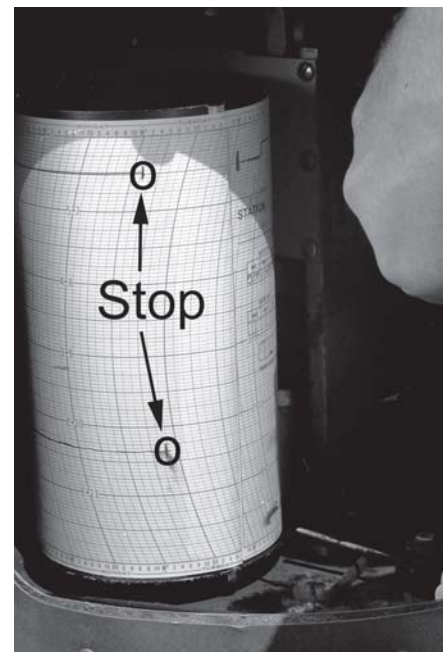

Figure 3-8. Mark the pen position.
1. Open the raingage access door and move both pens up and down to mark their stop positions on the chart (Figure 3-8). The top pen is the event recorder pen, which records the openings of the collector. The bottom pen records the amount of precipitation. Note: The event recorder pen should be in the *down* position if the collector is covering the wet-side bucket and *up* if closed over the dry-side bucket. If this is not the case, call the CAL.